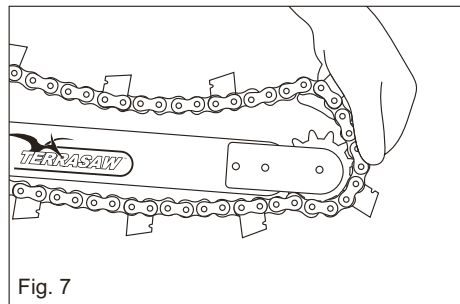
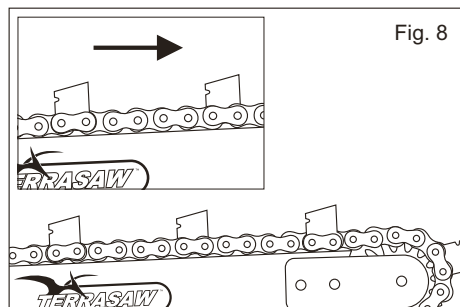

Fig. 7
Fig. 8
11. Hold the digging bar as shown (Fig. 7), with the bar slot facing towards the main block body. **Note:** Digging bar is reversible, but the digging chain direction is critical (Fig. 8).
12. Loop the digging chain around the nose sprocket of the digging bar (Fig. 7). **Note:** The digging chain must be assembled with the directional notches on rear/trailing edge of teeth as the chain runs along the top of the digging bar (Fig. 8). **Important:** Fitting digging chain in reverse will cause a dramatic loss of performance.